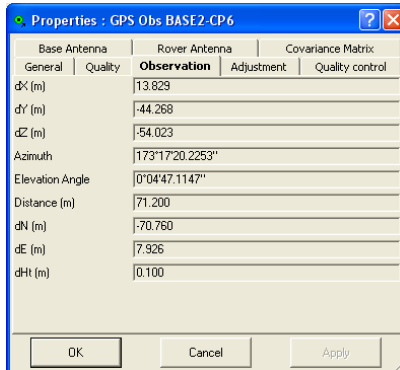

Figure 5-122. Observation Properties
3. View *Observation* tab fields which contain fields for viewing the vector solution type (dX,dY,dZ, Azimuth, Elevation Angle, Distance, dN,dE,dHt) (Figure 5-122 on page 5-85).